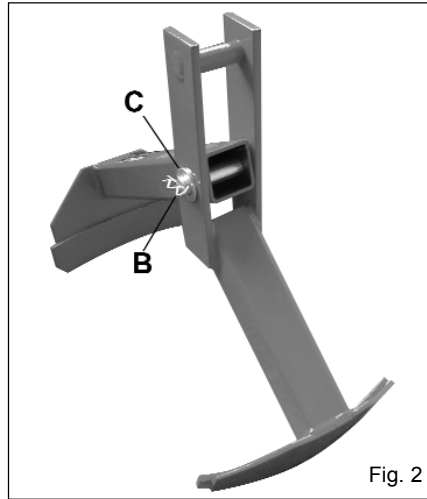

Fig. 2
- 3.2 Slide washer 'C' over the end of the protruding pivot pin (See fig.2) and secure the assembly by inserting the retaining clip 'B'.